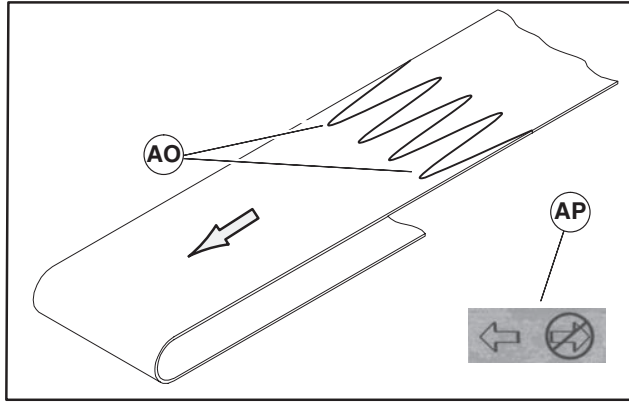

Figure 24
1. Orient belt so splice leading fingers (Figure 24, item AO) point in the direction of belt travel as identified by the conveyor directional label (AP).
2. Orient belt so splice leading fingers (Figure 24, item AO) point in the direction of belt travel as identified by the conveyor directional label (AP).